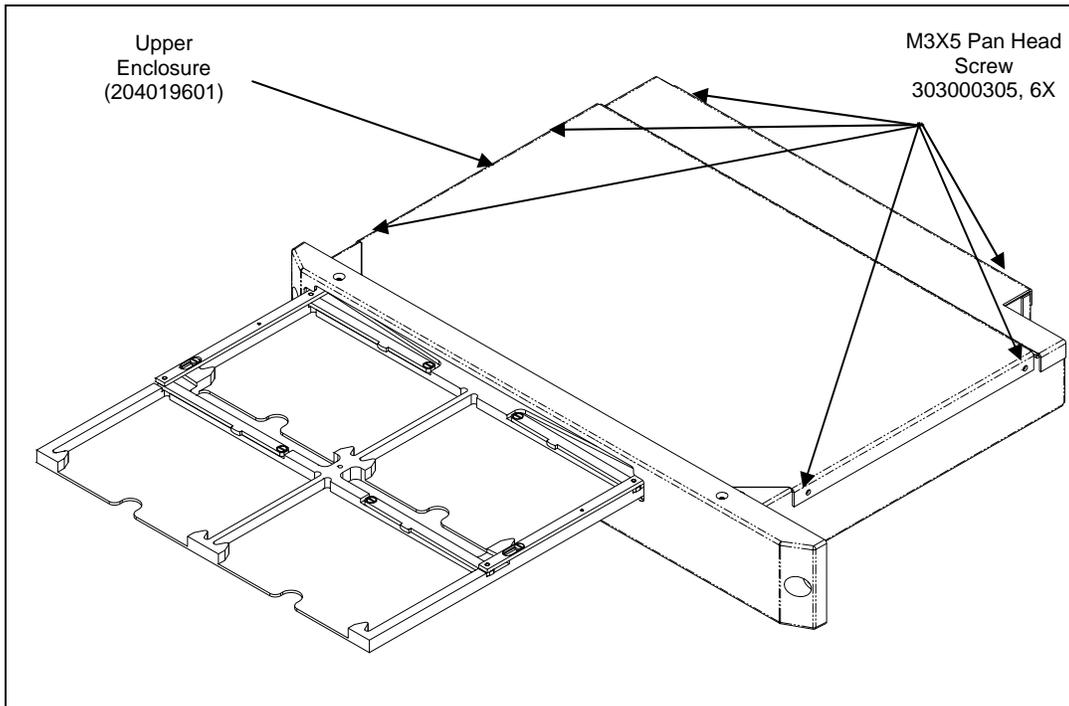

Figure 15-1 Removing the Ambient Drawer Cover
To access the internal components of the Ambient Drawer, remove the six M3 x 5mm screws (shown in Figure 15-1) and remove the cover.
- 7 Replace the ambient drawer cover (Figure 15-1).